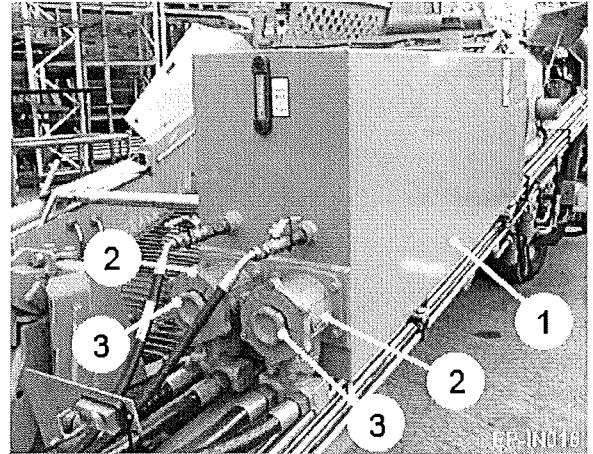

Fig 26
Always ensure the suction filter knobs (item 3, fig 26) are wound fully in clockwise before operating the harvester.
Depending on the specification of the machine, three or four hydraulic pumps are mounted on the PTO splitter gearbox. Oil for these pumps is supplied from the harvester oil tank (item 1, figure 26). All the pumps are fed through the two oil tank suction filters (item 2, figure 26) and feed to the valves through pressure filters.
When the machine is in use, the suction filter knobs (item 3, figure 26) must be wound fully in clockwise at all times.